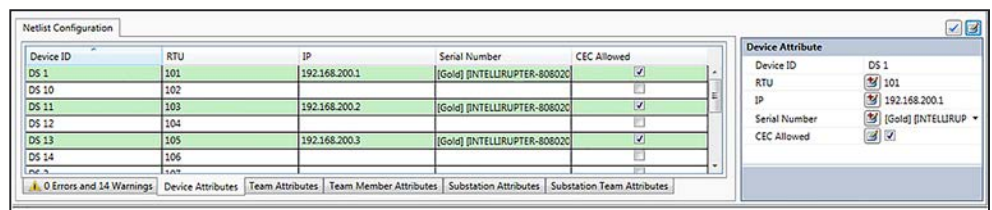

Figure 73. Netlist Configuration shows the completed changes.
STEP 12. Click on the **Apply** button to immediately apply the **Multi Update** values and keep the Multi Update dialog box open, or click on the **OK** button to apply and close the Multi Update dialog box. The changes will now be entered in Netlist Configuration. See Figure 73.